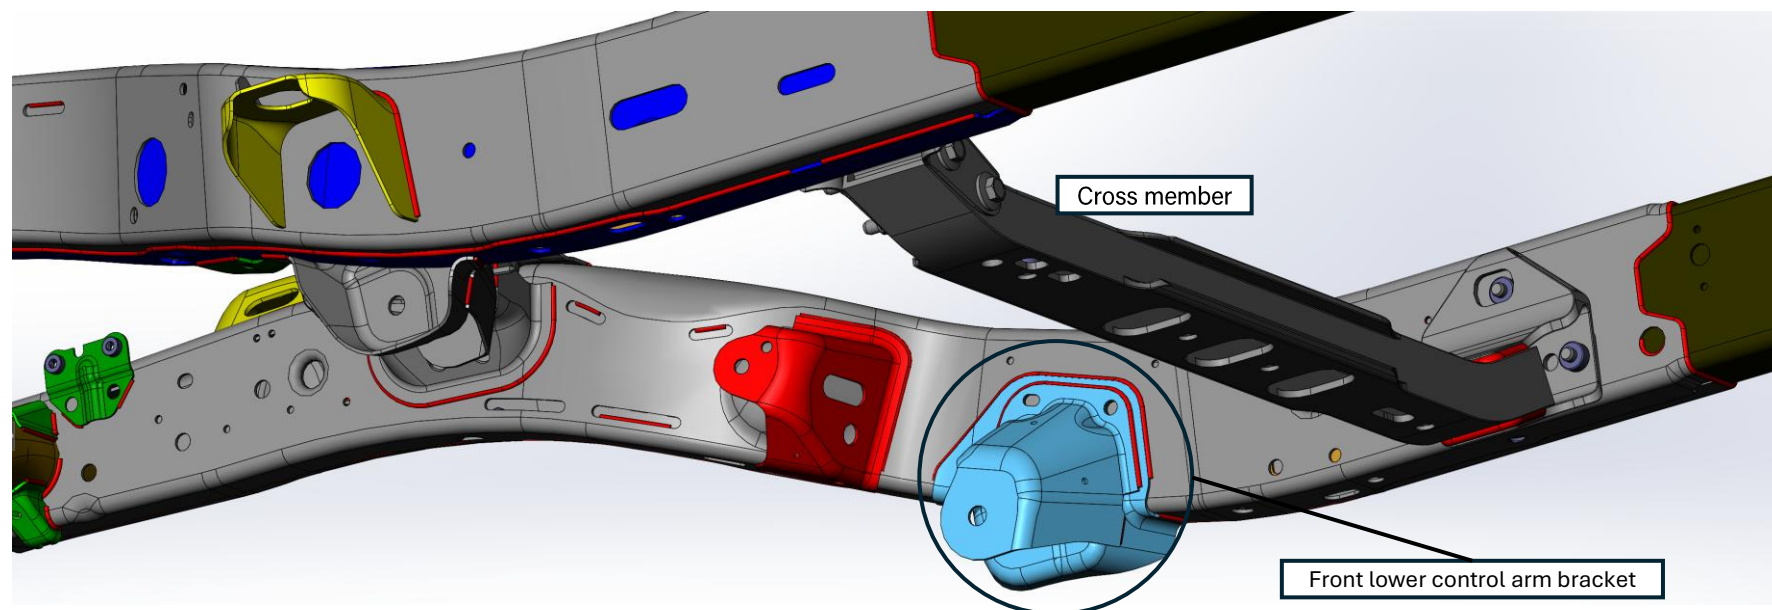

Figure 5: CAD model of original front upper and lower control arm bracket locations
3. Remove both front lower control arms and begin cutting off the lower control arm brackets from the frame. It is recommended to cut the bracket just below the weld and then grind the weld flat. Complete this step for both sides. See Figure 5 for the front lower control arm bracket on the passenger side of the vehicle (highlighted in blue).